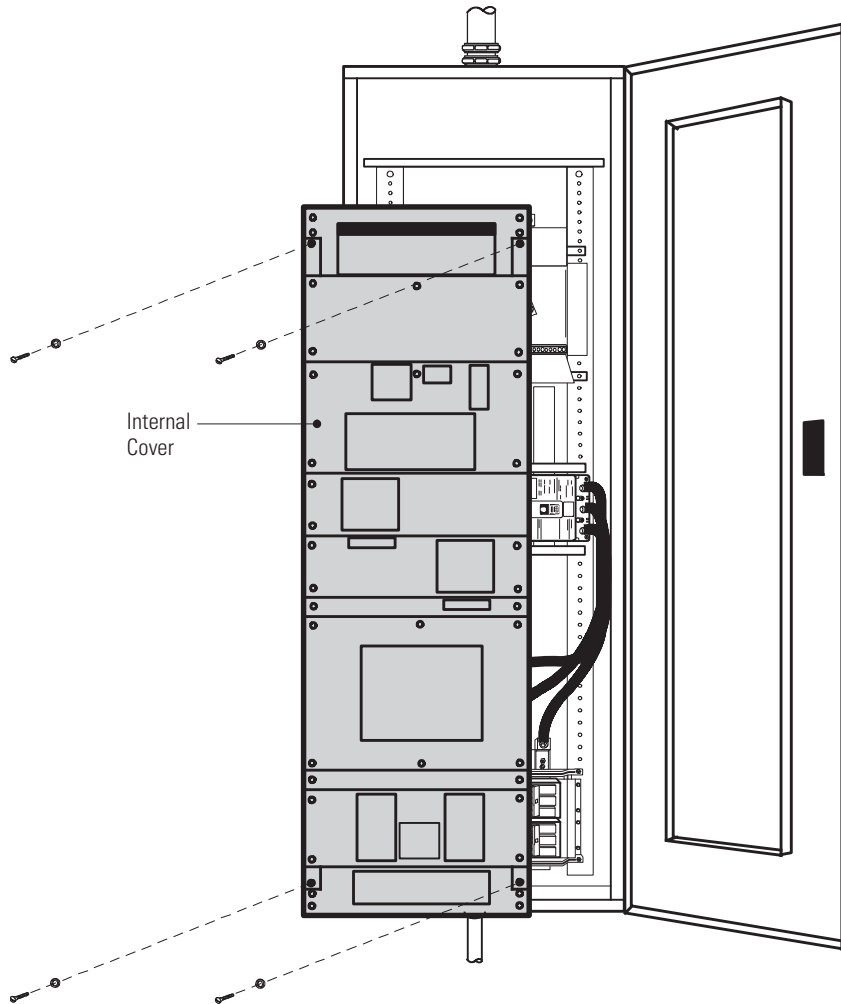

Figure 30. Version 2 Bypass Cabinet Internal Cover
7. Remove the internal cover to gain access to the breakers (see Figure 30).